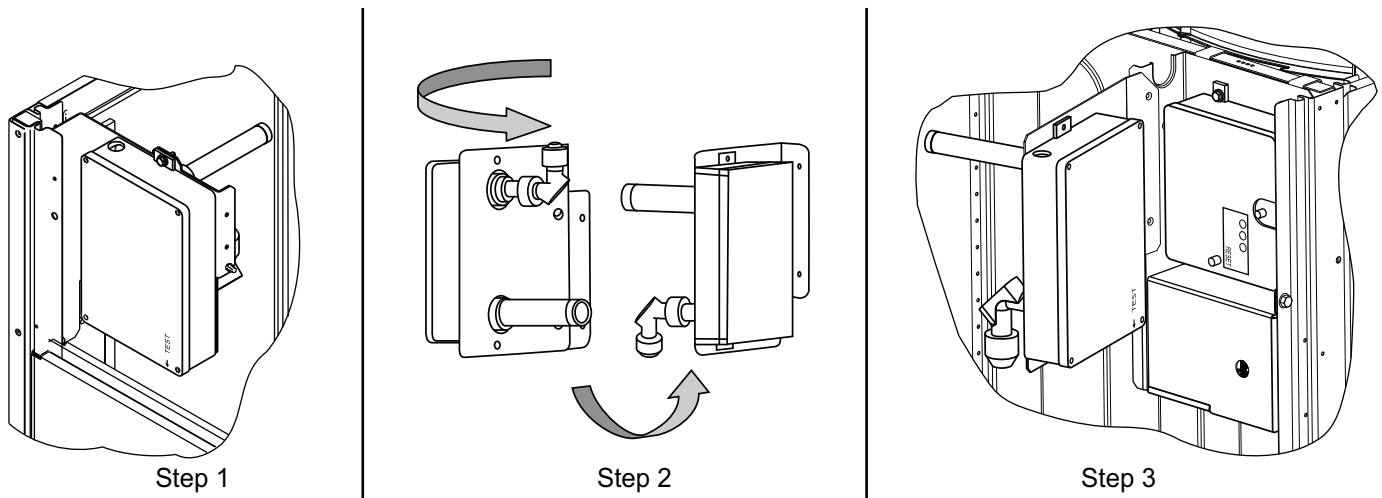

Fig. 69 — Completing Installation of Return Air Smoke Sensor
1. Unscrew the 2 screws holding the return air smoke detector assembly. See Fig. 69, Step 1. Save the screws.
2. Turn the assembly 90 degrees and then rotate end to end. Make sure that the elbow fitting is pointing down. See Fig. 69, Step 2.
3. Screw the sensor and detector plate into its operating position using screws from Step 1. See Fig. 69, Step 3.